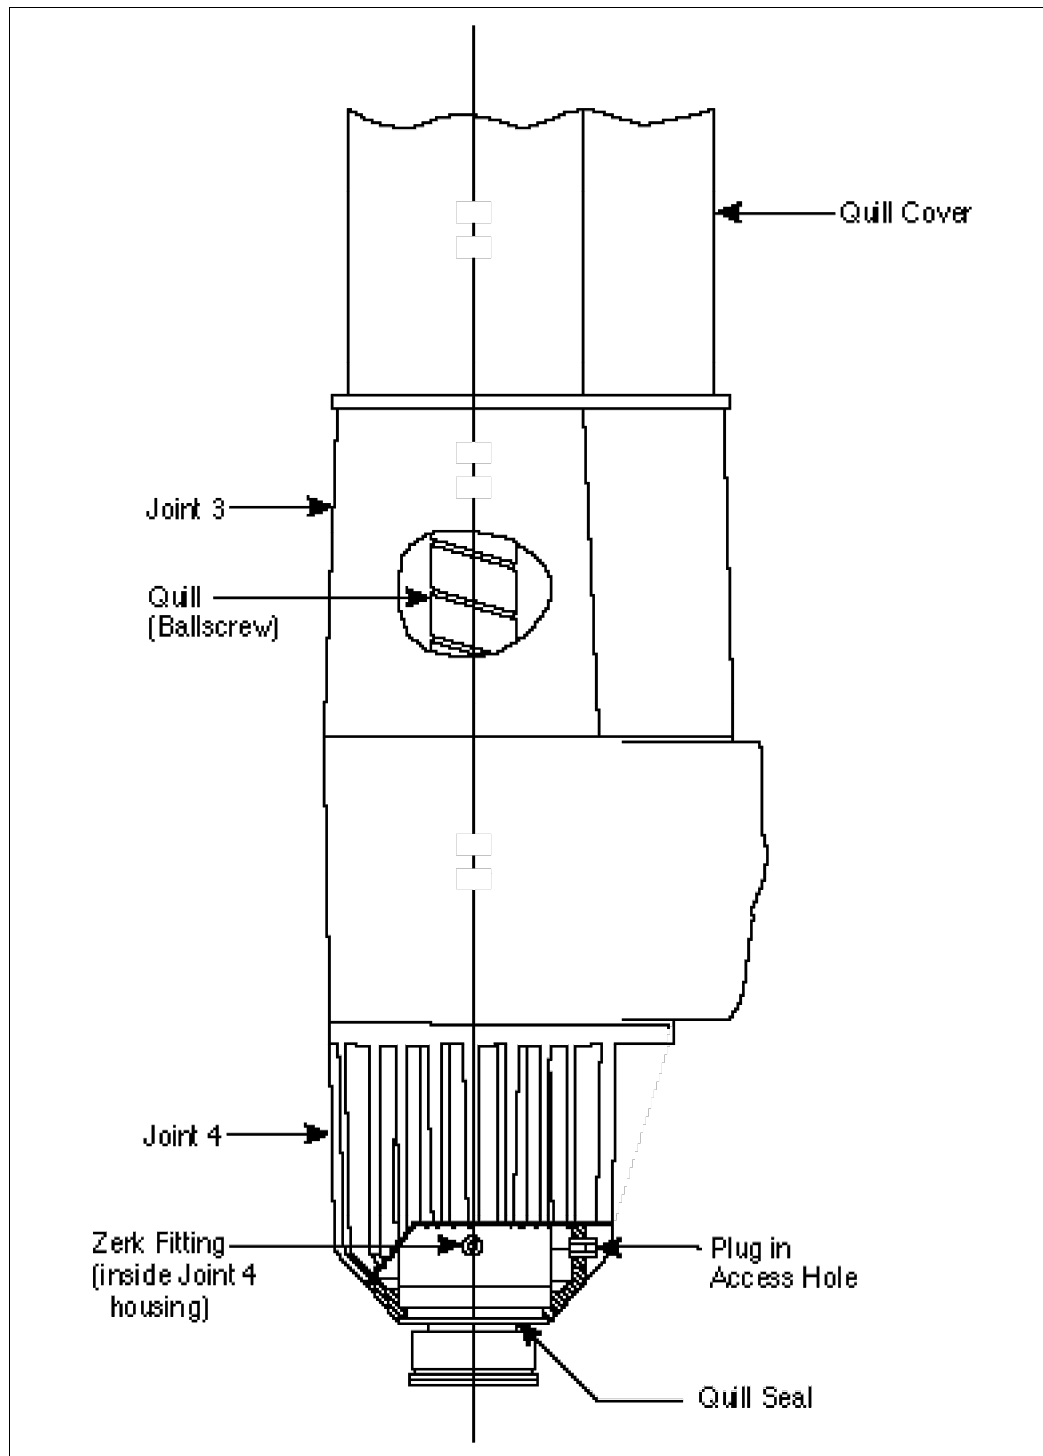

Figure 4-1. Joint 3 and Joint 4 Lubrication
3. Using a 5/16-inch Allen wrench, remove the grease fitting access plug from the side of the Joint 4 housing. See Figure 4-1.